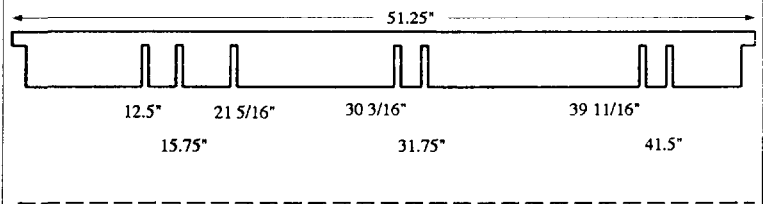

Figure 2
*This tool [figures 2 and 3] is especially useful to those of you who spend lots of time voicing Steinway pianos, but the idea could probably be adapted for use with other makes. The voicing rail is essentially a long piece of wood that is used to support the hammers when you're filing, needling, and juicing. It fits between the backchecks and the hammershank cushions when the stack is on the keyframe, and is as long as the stack. (There is a good illustration of one in use on page 59 of the new Steinway Technical Manual. The manual, and for that matter, the voicing rail can be ordered from Steinway.)*